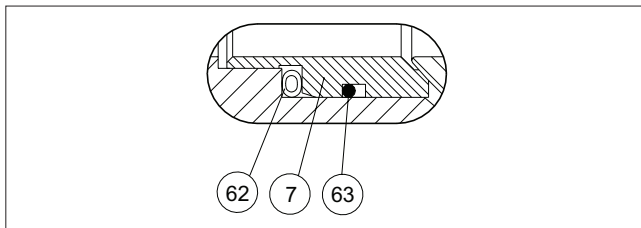

Fig. 10 S seat
- Place the O-ring (62) into the groove in the seat. See Figures 10 and 11.
- Place the spring (62) into the groove in the seat (7). Connect the ends of the spring.